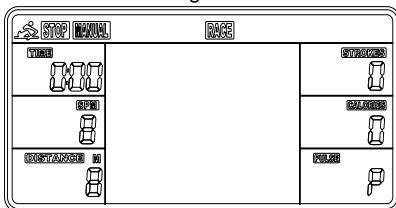

Fig. 3
2. The CLOCK will flash. Press UP to set the hour. Press ENTER to confirm. Press UP to set the minutes. Press ENTER to confirm. Continue to set up YEAR (in the STROKES window); MONTH (in the CALORIES window); DAY (in the PULSE window) by pressing UP or DOWN. Each time, press ENTER to confirm. After you confirm it, the ALARM will beep. To skip setting up an alarm, press ENTER. To set up an alarm, press UP KEY to turn on ALARM. An arrow will appear next to ALARM. Press ENTER. CLOCK window will flash. Press UP or DOWN to set the alarm time. Press ENTER to confirm. Meter will go into the SPORT screen (Fig.3).